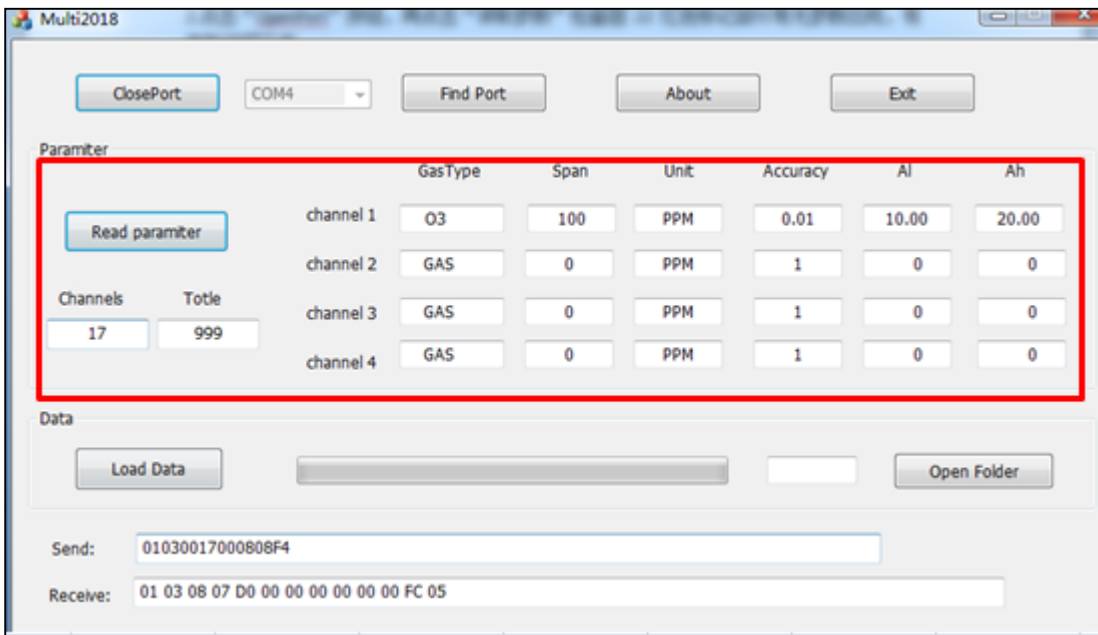

Figure 22
2) Click the "OpenPort" button, then click the "Read parameter" button to check if there have parameters in the red mark of Figure 22. If there have parameters, it is normal.